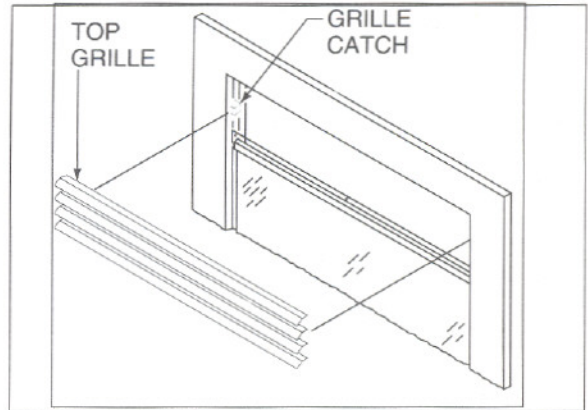
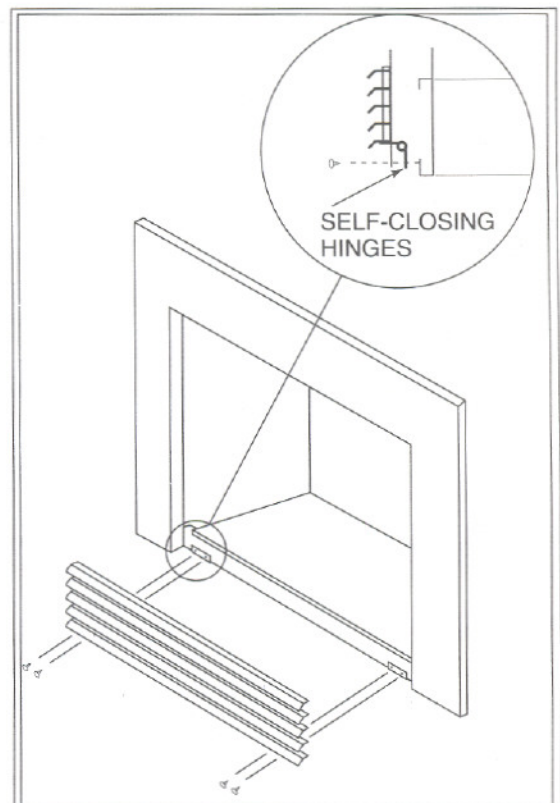

Figure 10
Figure 11
The upper grille (4 louvers) can now be snapped into position. See Figure 10 (page 8). Simply align the grille with the top of the opening and snap into place.
The lower louver is easily affixed to the bottom of the EZ with (4) four screws. Insure the lower grille is centered before tightening the screws. The back flange of the lower grille should contact the firebox bottom to ensure optimum performance. See Figure 11 (page 8).
To remove glass for cleaning of burner area - See Figure 10
To Install or Remove Grilles. The top grille will simply clip into position by aligning the top of the grille with the top and sides of the surround and pushing it into place. See Figure 10. The lower grille is easily affixed to the bottom of the EZ with four screws. Insure the lower grille is centered before tightening the screws. See Figure 11.